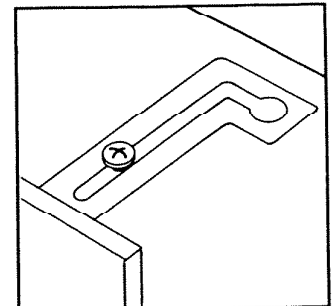

FIGURE 12
4. Slide master panel to the right, then forward until panel is flush with the wall. See Figure 12.